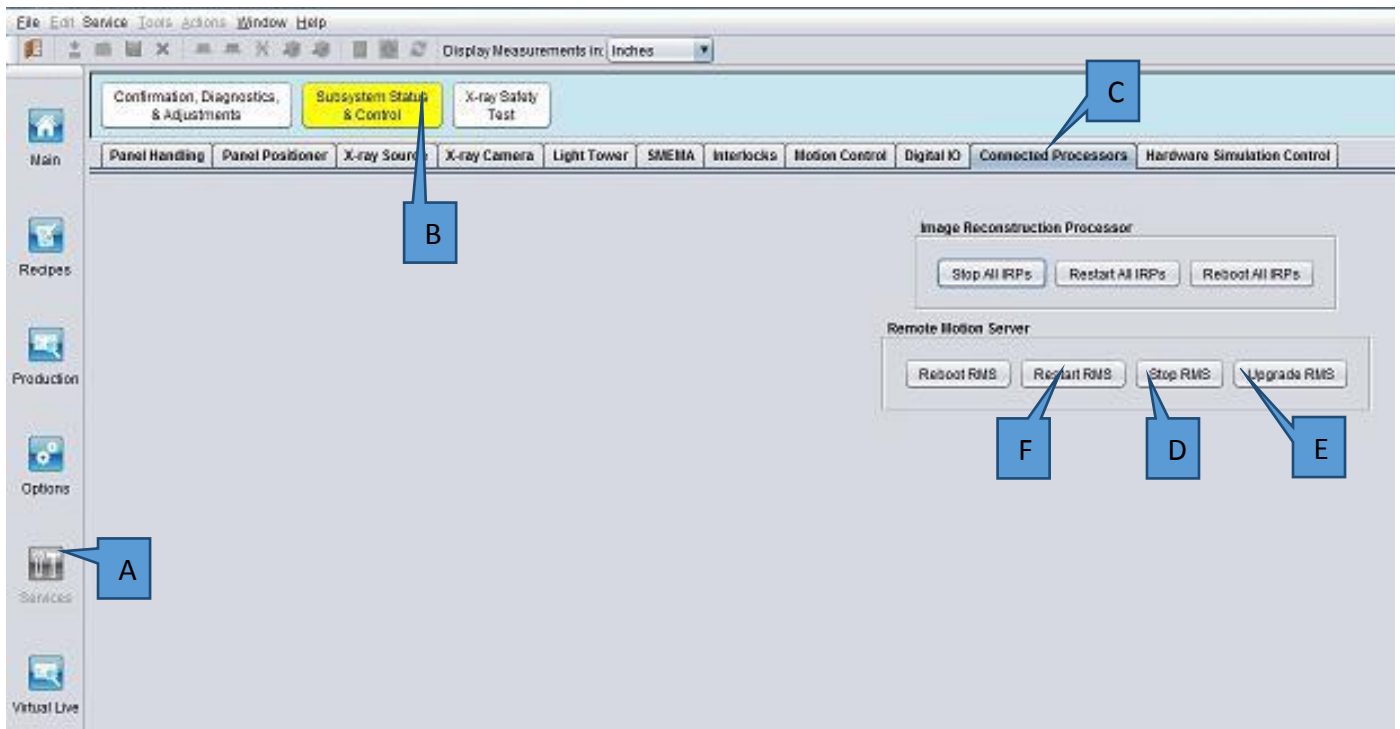

Figure 2 Connector Processor
- Go to Connected Processor, click Stop RMS, Upgrade RMS and Restart RMS as Figure 2.